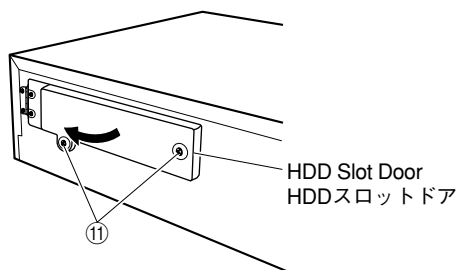

Fig. 10
- a. Loosen 2 screws (⑪) and open the HDD slot door. (Fig. 10)